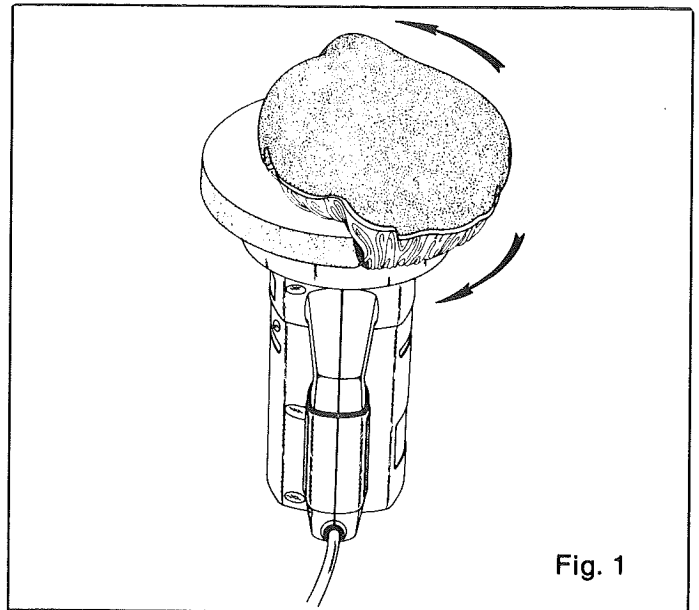
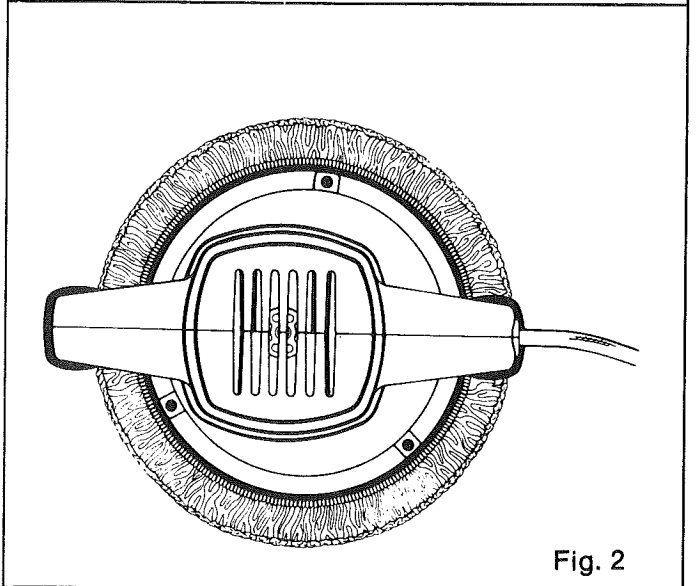

Fig. 1
Fig. 2
2. Place Buffer-Polisher as shown in Fig. 1.
3. Stretch bonnet over polishing pad and continue around the pad as shown in Fig. 1. **Warning:** Make sure bonnet is evenly and securely attached to polishing pad. See Fig. 2. Failure to securely attach bonnet may result in bonnet being thrown from tool causing injury.